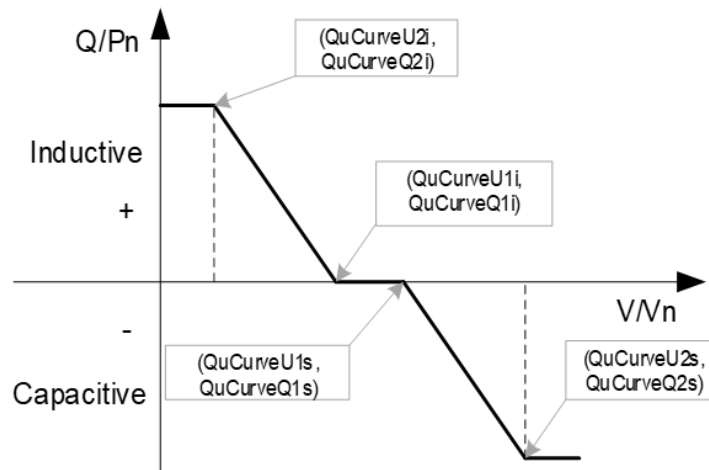

Figure 6-7 Q(U) Curve Mode
Q(U) Curve: Q(U) curve mode. The reactive compensation changes according to the grid voltage change (see Figure 6-7).